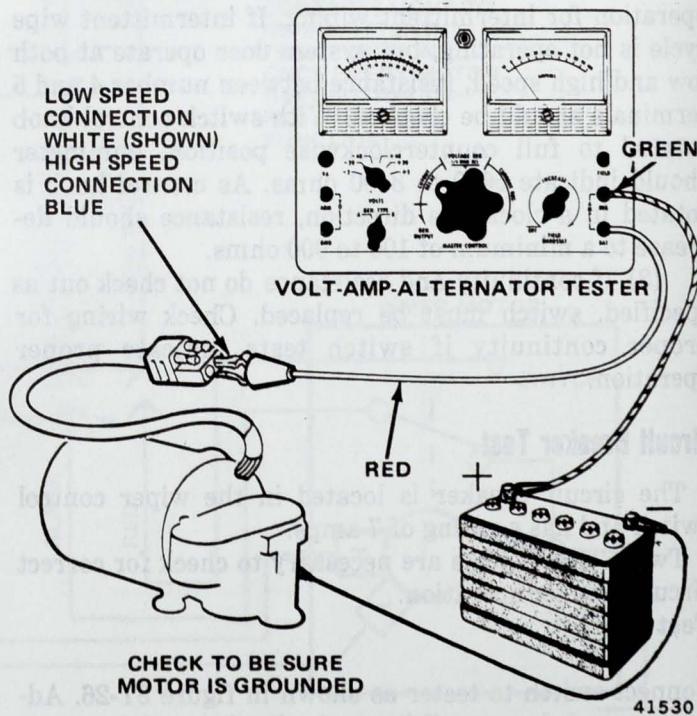

Fig. 3T-29 Wiper Motor Current Draw Test Connections
(1) Remove wiper arms and blades and disconnect motor lead.
(2) Connect negative lead of ammeter to positive battery post (fig. 3T-29).